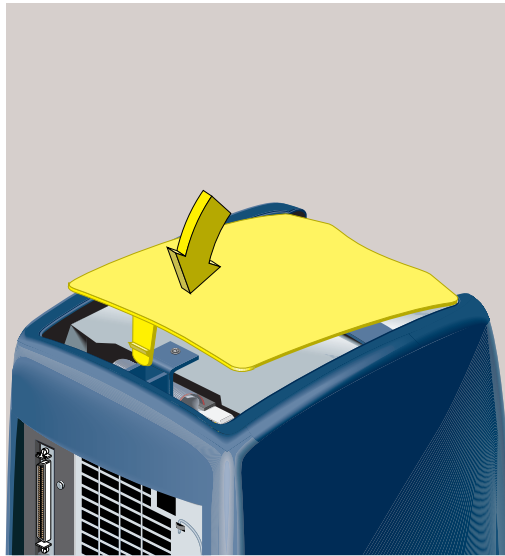

Figure 5-58 Replacing the Top Cover of the CD-ROM Drive
17. Replace the top cover (Figure 5-58).